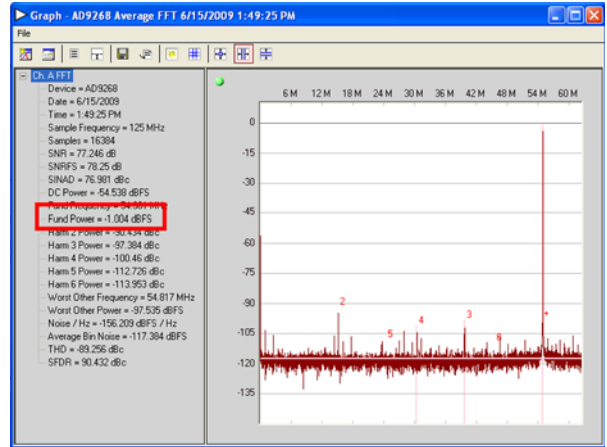

Figure 15. Graph Window of VisualAnalog
- Adjust the amplitude of the input signal so that the fundamental is at the desired level. Examine the **Fund Power** reading in the left panel of the **VisualAnalog Graph - AD9268 Average FFT** window (see Figure 15).